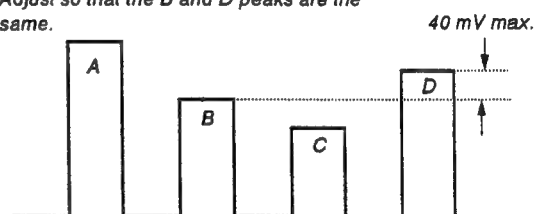

Fig. 23
- 4) Adjust **CHROMA PAL NOR** so that the tops of the waveform line up. (Fig. 23)
- 2) Adjust **CHROMA PAL ACC OFF** in the same manner as 15-4). (Fig. 23)